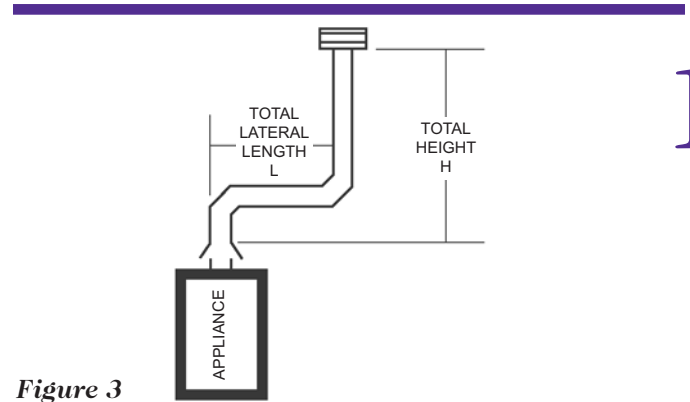

Figure 3
**A SINGLE-APPLIANCE VENT** is an independent vent for one appliance (Figure 3).
**TOTAL HEIGHT (H)** is the vertical distance measured between the appliance collar connection and the vent termination (Figure 3).
**TOTAL LATERAL LENGTH (L)** is the actual horizontal distance or length of offset between the appliance collar and the main vertical portion of vent (Figure 3).
**MINIMUM TOTAL VENT HEIGHT** is the vertical distance measured from the tallest appliance flue collar outlet in the system to the termination of the vent (see Figures 3 and 4). This minimum height is a fixed dimension for any one vent system regardless of the number or placement of appliances in the system.